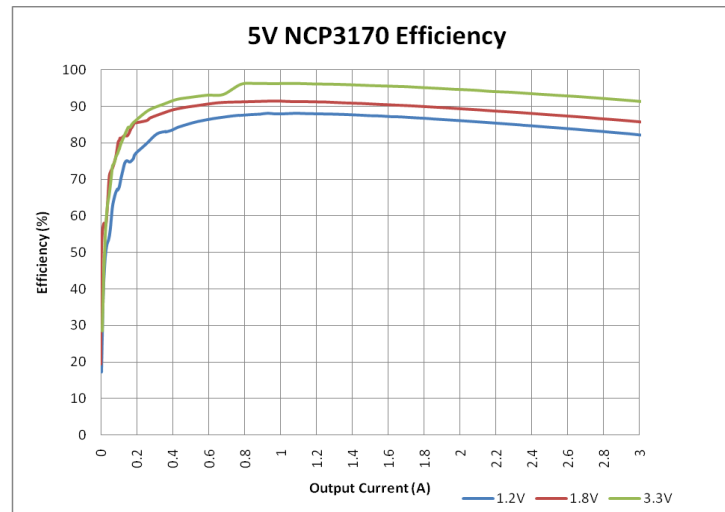

Figure 3: NCP3170 Efficiency at 5V Input and 1.2V, 1.8V, and 3.3V Output
9. Set I_{OUT} to desired level 0 A- 3 A and measure voltage and current the efficiency should be similar to that shown in Figure 3 and 4